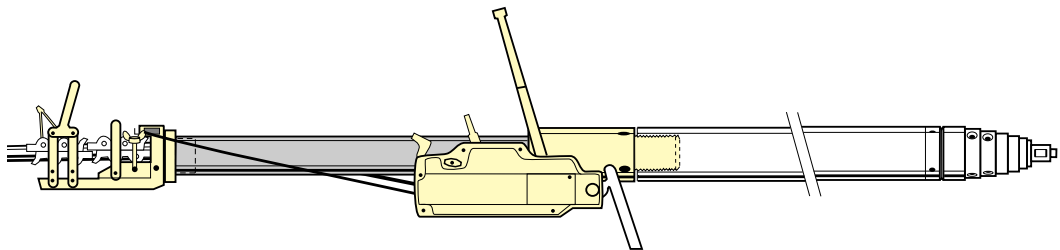

FIG. 12: CONTINUOUS WINCH WITH DOUBLE LOCKING CLAMP
- assist the pipe pulling procedure by using a continuous winch and double locking clamp (see Fig 12)
When using non-PVC pipe with GRUNDOMAT tools 5-in. or larger, (or if the soil is highly unstable), additional rear pressure must be applied to the pipe to assist the tool. In this case a double locking pipe pulling clamp is used instead of the ordinary clamp. This is used in combination with a pulling winch and steel cable (see Fig. 12).